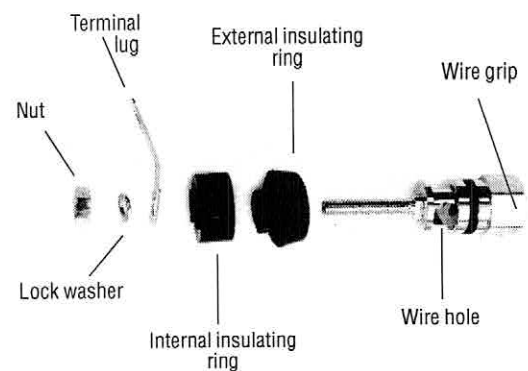

FIGURE 25
-Unassemble each speaker binding post by removing the nut, the lock washer, the terminal lug, the internal and the external insulating rings. (figure 25)